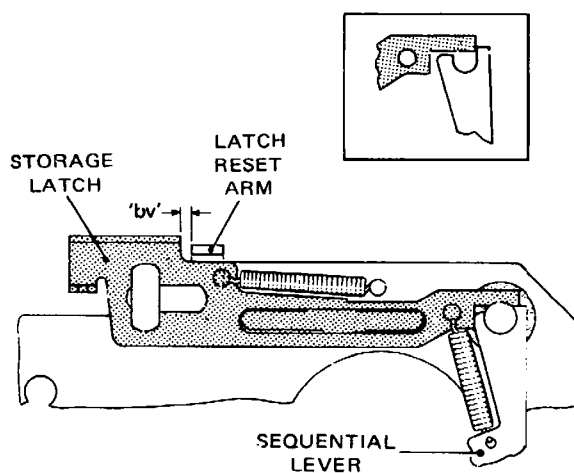

Fig. 4.78 STORAGE LATCH/RESET ARM CLEARANCE
- 87.1 With the machine in the rest condition, set up the letters (MMMMM) combination by depressing the sequential levers, Fig. 4.78. Check that there is now a minimum clearance of 0.002 inch (dimension 'bv') between each storage latch and the reset arm.